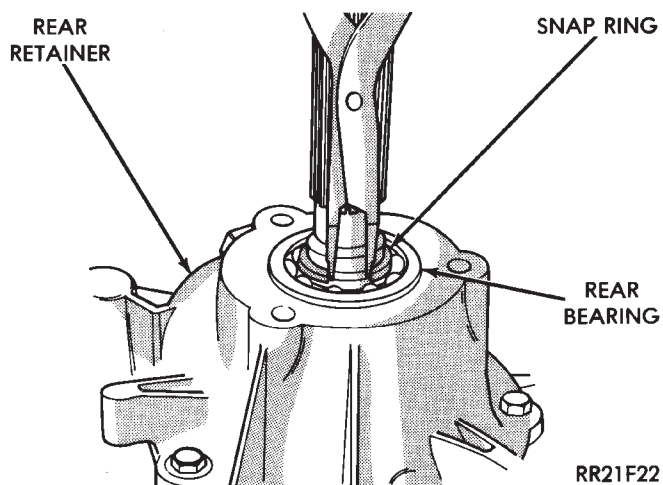

Fig. 63 Installing Rear Bearing Snap Ring
(52) Install locating dowel in rear retainer and install retainer on case. Tighten retainer bolts to 24 N•m (18 ft. lbs.) torque.
(53) Install new rear bearing snap ring (Fig. 63). Lift mainshaft slightly to seat snap ring in shaft groove.
(54) Remove extension housing seal if not removed previously.